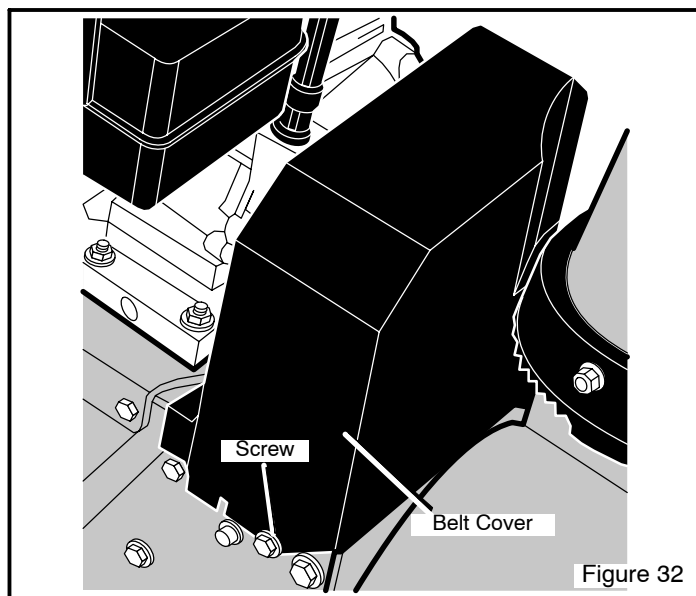

Figure 32
2. Remove **screw** from **belt cover**. Remove **belt cover** (see Figure 32).
4. Remove **screw** from **belt cover**. Remove the **belt cover** (see Figure 32).
16. Install the **belt cover**. Tighten **screw** (See Figure 32).
15. Install the **belt cover**. Tighten **screw** (see Figure 32).